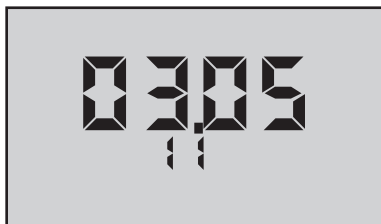

Figure 12
Example shown in Figure 12 is in US format, i.e., mo/dy/yr.
2. Press  repeatedly until the date is displayed (scrolling through stored readings, PC OFF, CLR ALL and time to the date, e.g., “03.05.11” (Figure 12), March 5, 2011).